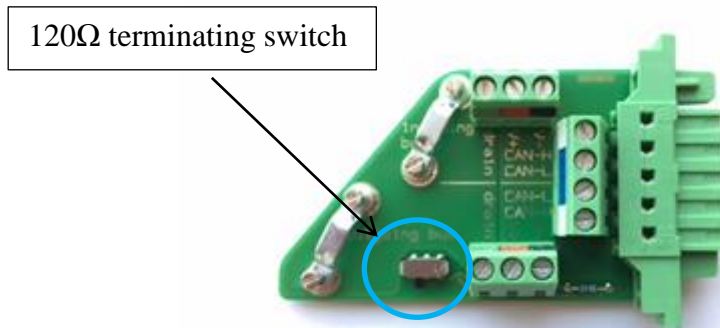
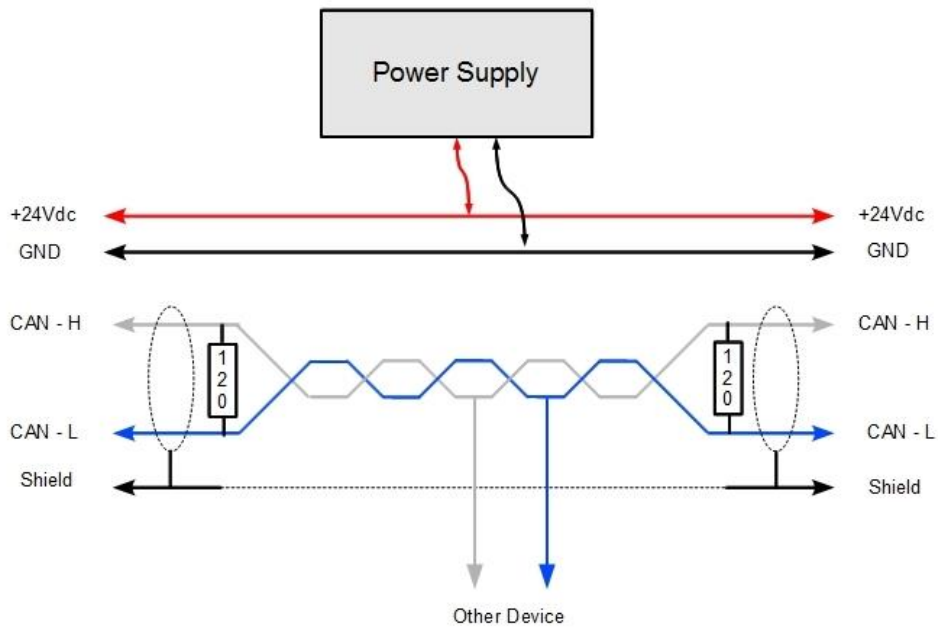

Figure 7-11 DeviceNet Phoenix connector
Figure 7-12 DeviceNet wiring guide
- Termination resistors are installed at each end of the network (see Figure 7-12). If the laser is the last device on the network, enable the terminating resistors by means of the terminating switch in the Phoenix connector see Figure 7-11.